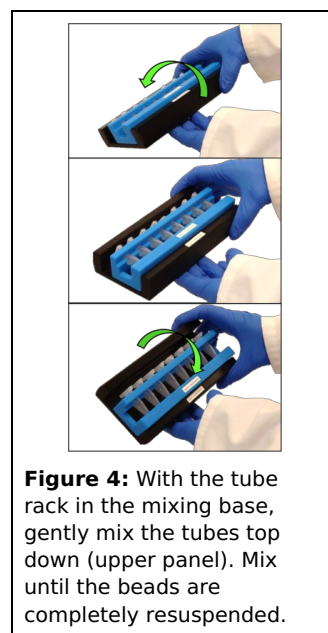

Figure 4: With the tube rack in the mixing base, gently mix the tubes top down (upper panel). Mix until the beads are completely resuspended.
- Add 700 μ L of Wash Buffer 1 to the tubes and then place the tube rack in the mixing base. Mix thoroughly by inversion, ensuring all beads have been detached from the tube walls and evenly resuspended (Figure 4).